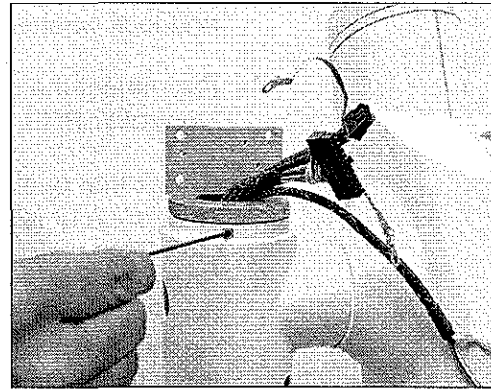

Figure 5-1c: Removing Hex Set Screws
7. Use the 5/64" Allen wrench to remove two hex set screws on opposite sides of the Pivot Junction (see Figure 5-1c). Lift and remove the Controller Pivot Assembly while pushing the cables and ground wires through the opening. **Secure the cables. Do not allow them to fall into the pole (floor stand mount) or the Injector Mounting Arm (wall or ceiling mount).**
2. Use the 5/64" Allen wrench to secure the two hex set screws on opposite sides of the Pivot Junction until they are fully bottomed (see Figure 5-1c). **Do not over-tighten.**